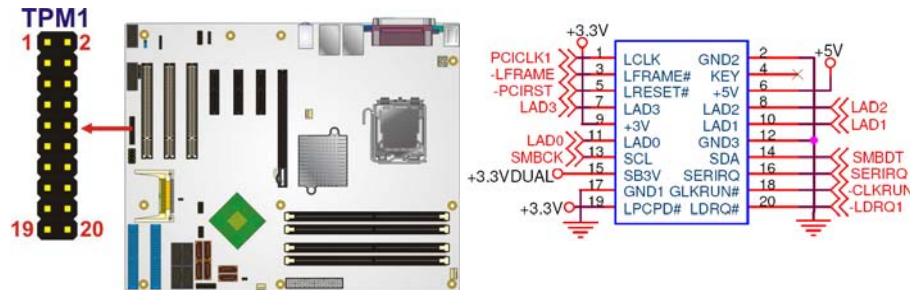

Figure 4-21: TPM Connector Pinout Locations
- CN Location:** See Figure 4-21